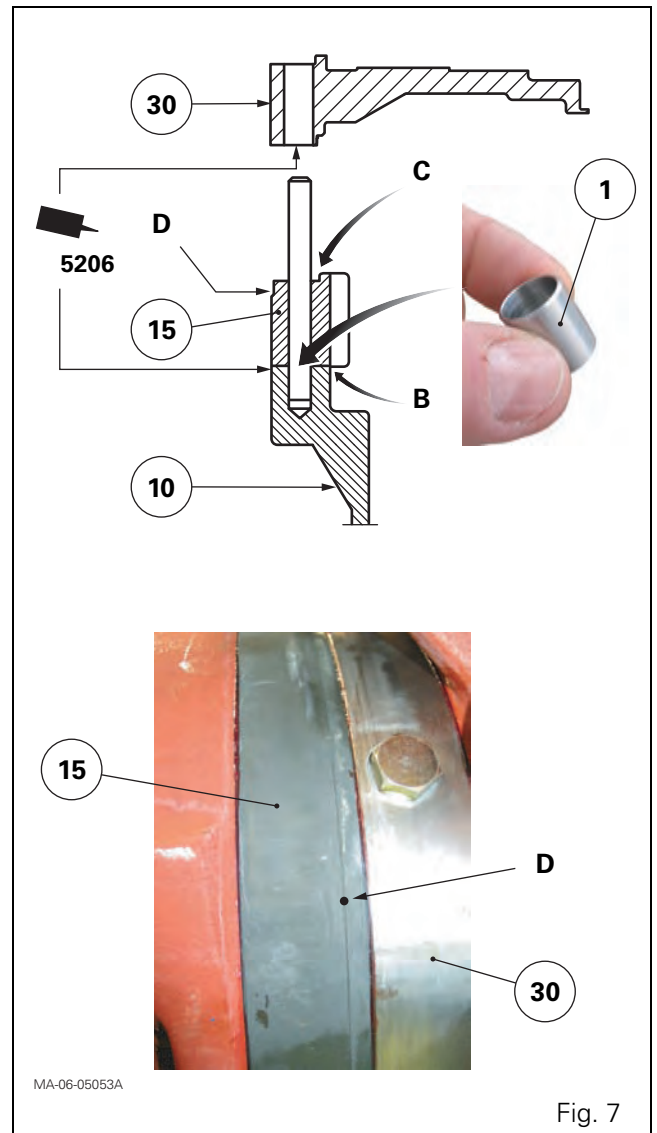

Fig. 7
23. Evenly smear the mating face of the ring gear on the trumpet housing (10) with a sealing product (Loctite 5206 or equivalent) (Fig. 7).
Evenly fill angle B of the trumpet housing with a silicone bead (Loctite 5910 or equivalent) (Fig. 7).
24. Check the presence of the locating pin (1) (Fig. 7).
Refit the ring gear (15), positioning its turned section D towards the sealed compartment (30) (Fig. 7).
25. Evenly smear the mating face of the ring on the trumpet housing (30) with a sealing product (Loctite 5206 or equivalent) (Fig. 7).
Evenly fill angle C of the sealed compartment with a silicone bead (Loctite 5910 or equivalent) (Fig. 7).